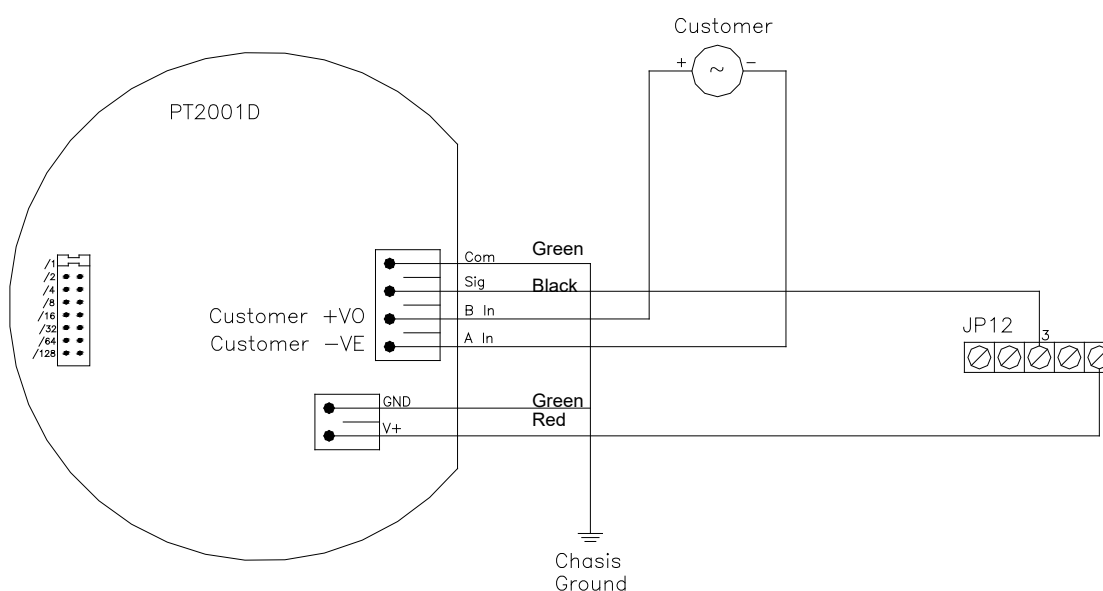

Figure 9-1 High Frequency input/pulse divider
- Input conditioning board (high frequency input/pulse divider) - This optional board is designed to take low level voltage pulse signals from the coil of a gas turbine meter and produce a clean square wave 0-5 volt pulse. The user, via a jumper position, selects an “accumulate and divide function” so that a conditioned output signal is produced on 1:1, 1:2, 1:4, 1:8, 1:16, 1:32, 1:64, or 1:128 ratio. This would allow in the case of a GasMicro, accumulate up to $128 \times 400\text{hz} = 51,200$ hertz pulse. The jumper positions are shown in Figure 9-1. In short the jumper position 1&2 produces a ratio of 1:1, doubling the division each time with each position pair up to position 15&16, which provides a ratio of 1:128.